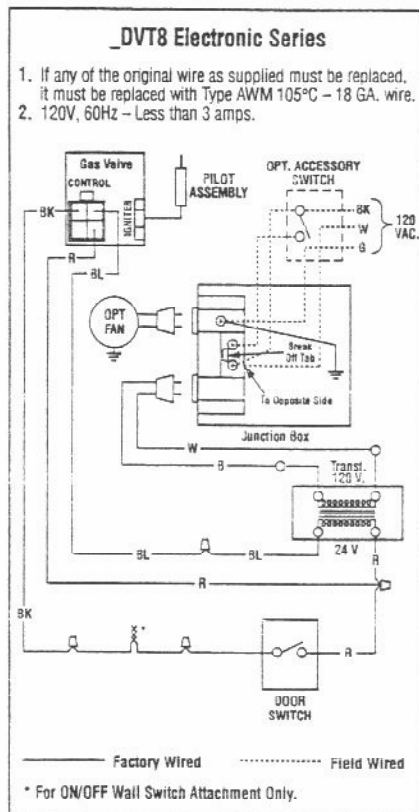
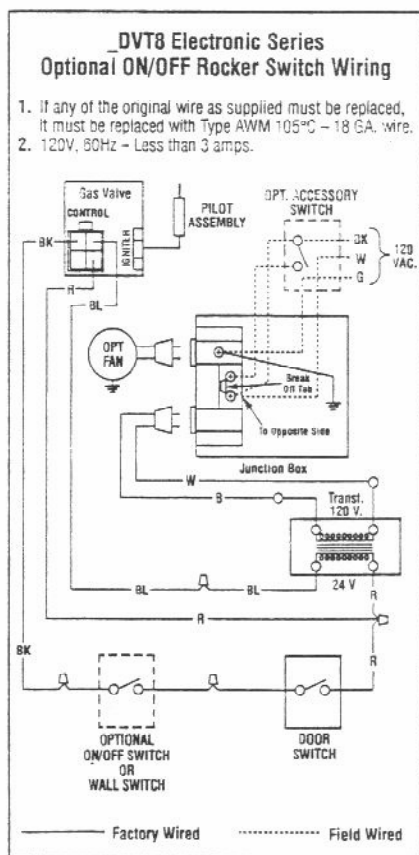

Figure 34
Figure 35
Step 7. Field Wiring Electronic Appliances – Regardless of whether an optional forced air blower kit (Figure 34) is to be installed now or sometime in the future, the appliance must be connected to the main power supply. To install, route a 3-wire 120V 60Hz power supply to the appliance junction box (located in the lower left side of the appliance) and ground. Also, at this time you may wish to locate and install an optional low voltage (24V) wall switch (Figure 35) in the desired location, connect the low voltage wire to this switch. For blower wiring, refer to the installation instructions provided with the forced air kit and the following paragraphs.
Note: The optional rocker switch is mounted to the appliance and wired in the same way as the remote wall switch (Figure 35).